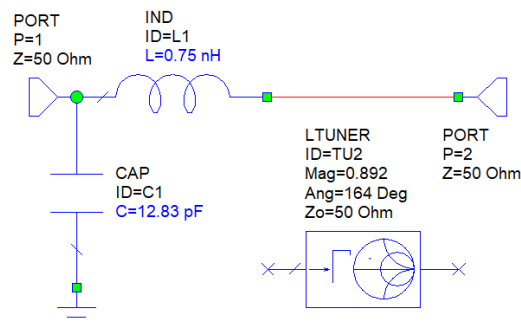

Fig. 7 Input matching circuit.
- After finishing the input matching circuit place the LTUNER aside the circuit, so the circuit is not affected, as shown in Fig. 7.